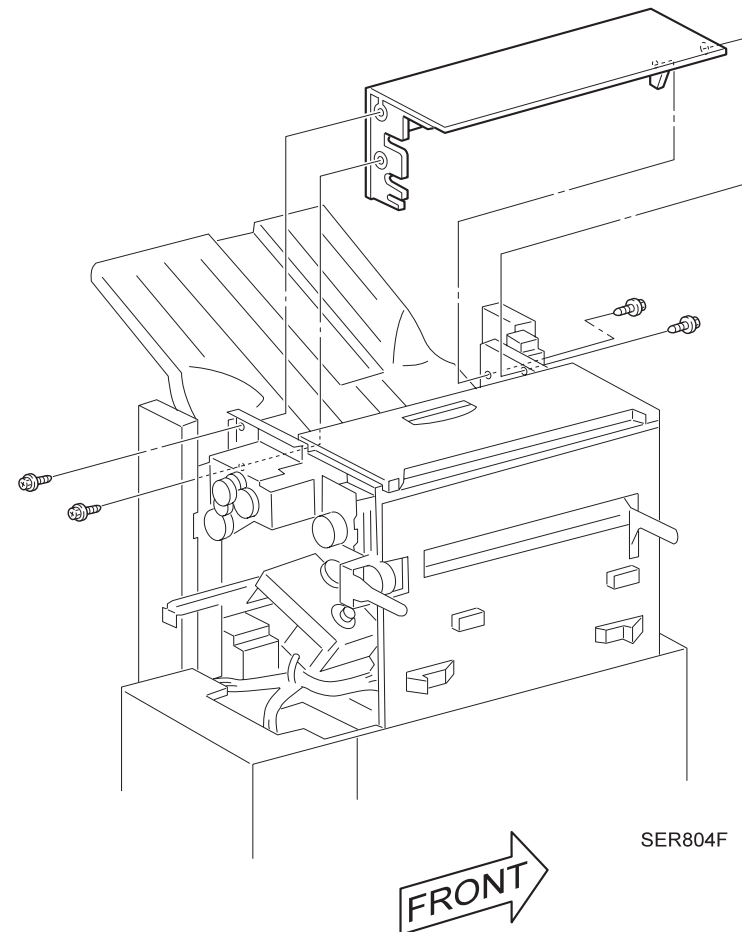

Figure 3-10. Eject Cover
1. Place Eject Cover as shown in the Figure 3-10 and put Cover into HCS frame.